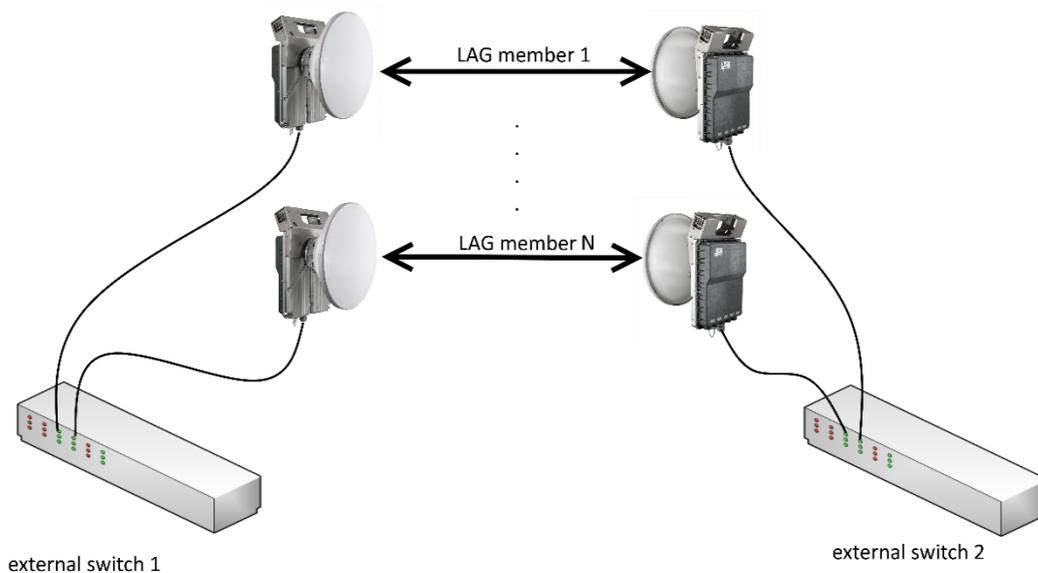

Figure 5-8 Link aggregation with LSP
For example, let's look at a time delay at LACP when detecting the fault of a LAG (Link Aggregation Group) member. Please see Figure 5-8 below.
- 1) Check the management channel configuration – if the management is accessible only through the port with enabled LSP, access to the radio will be lost. To avoid this, we recommend using a different port for the management when using LSP or Backup-Link functionality. Management cables are not shown in Figure 5-8.